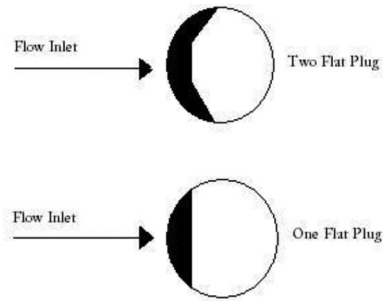

Figure 2: M-Flat Valve Plug Orientation
4. Unscrew hex nuts (key 8) and remove the bonnet off the valve stem. Ensure the valve plug and stem remain in the body and on the seat. This will prevent damage to the seating surfaces as a result of the assembly dropping from the bonnet after being lifted out.
6. Upon removing the bonnet gasket (key 5), cover the opening in the valve body to protect the surface and prevent any debris from getting into the valve body.
9. Remove the protective covering from the valve body. Install a new bonnet gasket (key 5). Ensure the gasket seating surfaces are clean and clear of debris. Check that the M-Flat valve plug, and stem assembly are oriented as shown in Figure 2 when replacing the bonnet to the valve body. Slide the bonnet over the stem onto the stud bolts.
1. Install the seat ring gasket (key 6) and the seat ring (key 11) into the valve body.
3. Install the valve plug and stem assembly (key 4) into the cage. Ensure the m-flat valve plug orientation is as shown in Figure 2 when replacing the bonnet.
4. Install the bonnet gasket (key 5) and bonnet (key 2) over the valve stem and onto the body.
NOTE: Should minor adjustments be required, re clamp the actuator and valve stems together. Do not screw the valve stem in or out of the stem connector as this may change the orientation of the valve plug shown in Figure 2.